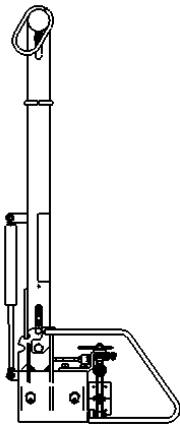

Figure 9.4.4 The TRAM Upright position
- b. Remove M8 Nuts, Washers and Screws from both ends of Gas Spring. Install the new Gas Spring and new fasteners from Kit TR-40-03. Ensure the orientation of the Gas Spring is correct with the ram extending downwards. See Figure 9.4.4.